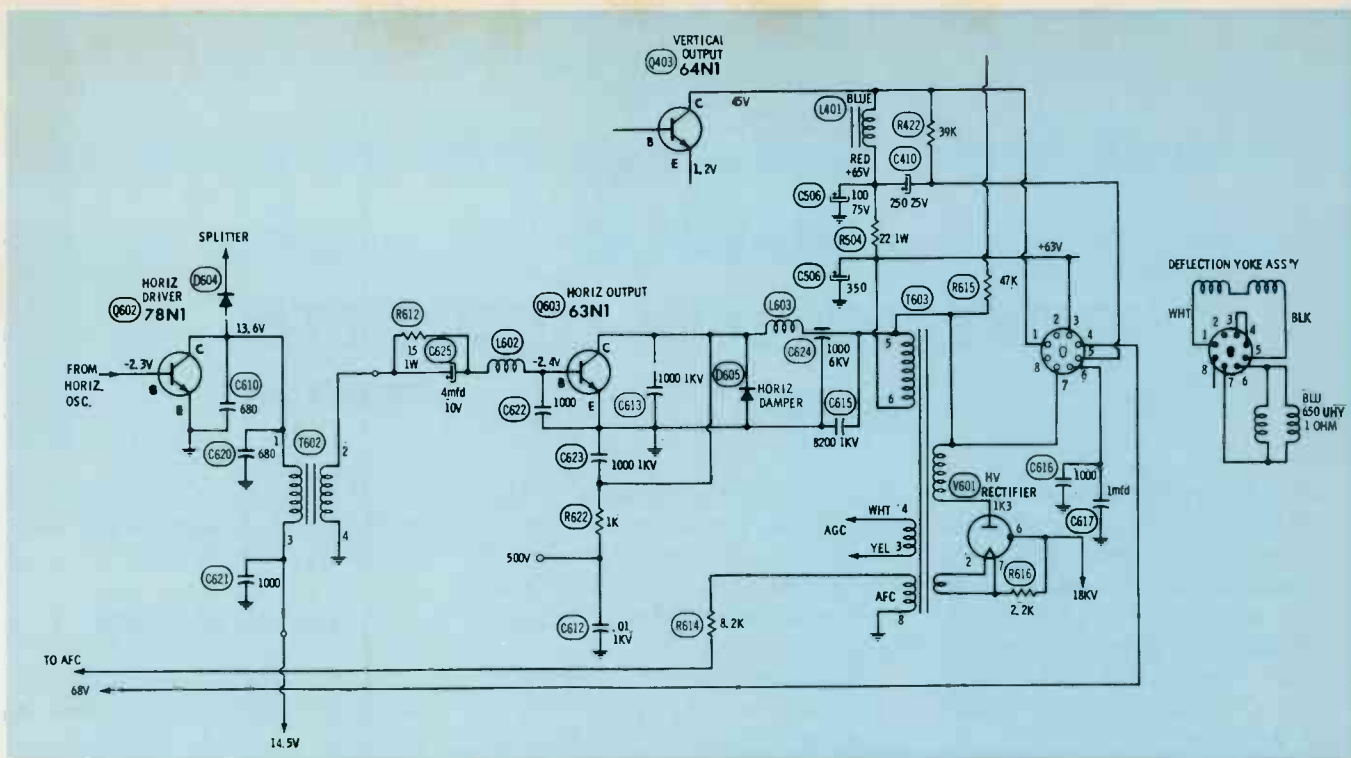
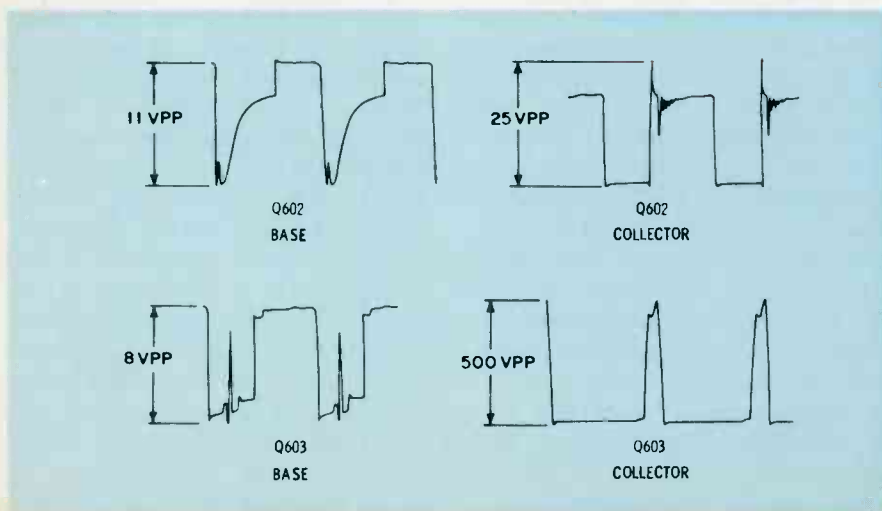
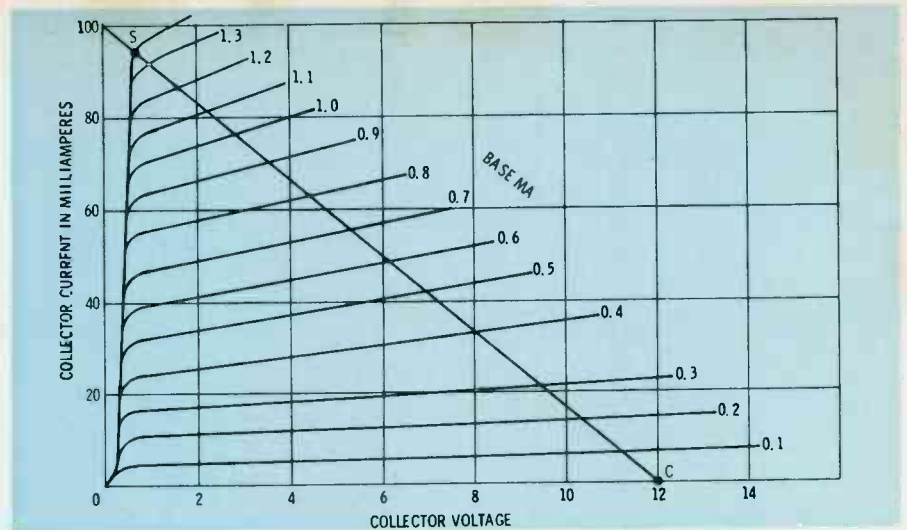

Fig. 11. A typical transistor horizontal-output and high-voltage configuration.
Fig. 12. Waveforms found in horizontal-output system of Fig. 11.
Fig. 13. Transistor operated in switching mode is driven from cutoff (c) to saturation (S).
A typical horizontal-output and high-voltage configuration is shown in Fig. 11. This is a hybrid circuit that employs a high-voltage rectifier tube. As noted in Part 1 of this article, driver transistor Q602 is first cut off and then driven into saturation by the output from the horizontal oscillator. Fig. 12 shows the normal waveforms at the base and the collector of Q602. The rectangular waveform from the collector is transformer-coupled to the base of horizontal-output transistor Q603. We say that Q602 is operated in the switching mode; or, the collector has two extreme operating points as indicated at S and C in Fig. 13. Transition between cutoff (C) and saturation (S) is very rapid in normal operation.
Note diode D604 in Fig. 11; this diode helps to damp out the ringing of transformer T602 and also rectifies the overshoot and boosts the +DC supply for the preceding phase-splitter stage. Observe that Q603 also operates in the switching mode. In other words, the waveform at the base of Q603 (Fig. 12) drives the transistor rapidly into cutoff and then drives it rapidly into saturation. When Q603 conducts, the yoke current increases linearly. Meanwhile,
You will find considerable variation in the circuitry of horizontal-output systems. For example, Fig. 16 shows an arrangement in which the horizontal transformer and deflection coils are connected in parallel between the main DC source and the collector of Q22. The driving waveform to the base is a rectangular pulse. A PNP transistor is used in this circuit. Hence, the drive waveform is a positive-going pulse. On the other hand, an NPN transistor is used in circuit of Fig. 11, and a negative-going drive waveform is utilized. The sequence of circuit action in Fig. 16 is basically the same as explained in Fig. 11.
However, voltage measurements at the base and collector of the horizontal-output transistor will indicate whether the transistor is operating normally. With reference to Fig. 11, Q603 does not draw excessive current when signal drive is lost, but becomes cut off. This is also true of driver transistor Q602. There are, however, several unique symptoms which can occur in this type of circuit. For example, high voltage can be developed, although there might
Another unique situation is that, in most cases, the horizontal-output circuit in Fig. 11 will continue to function with damper diode D605 open. Impaired operation continues because the horizontal-output transistor has the ability to function as a damper in case D605 is open. However, horizontal linearity will be poor at the left side of the picture. (Remember that defects in the damper circuit tend to affect the first half of the forward scan.) Note that the 500-volt boost voltage in Fig. 11 is not supplied from the damper diode action as in most tube-type receivers. Instead, a separate boost diode (SR601) rectifies the horizontal pulses from the col-
Suppose there is no raster. The first step is to check for high voltage with a DC voltmeter and high-voltage probe. If there is no high voltage, check next for AC pulses at the cap of V601 in Fig. 11. This can be done to best advantage with a high-voltage capacitance-divider probe and scope. However, if a suitable probe is not available, expedients such as a neon bulb, or stray pickup by a low-capacitance probe, can be used for a very rough check. In case the AC voltage is absent, either the driver stage or the output stage could be at fault. Check for drive at the base of each transistor with a low-capacitance probe and scope. This will often identify the defective stage. Then, DC voltage measurements will help
- Shorted shunt capacitor (C610, C622, and C613 in Fig. 11).
- Open series capacitor (C625 in Fig. 11).
- Shorted filter capacitor (C612 in Fig. 11).
For example, if C612 in Fig. 11 is shorted, the collector voltage at Q602 measures zero. An open coupling capacitor is quickly found by waveform checks. Defective
- Leaky capacitor (C610 and C620 in Fig. 11).
- Loss of coupling capacitance (C625 in Fig. 11).
- Open damper diode (D605 in Fig. 11).
ative feedback, and the waveform amplitude is reduced. Loss of coupling capacitance, as in C625 (Fig. 11) results in reduced waveform amplitude because of the AC drop across R612. In addition, the time constant of the drive circuit is changed and the base waveform at Q603 becomes distorted. L602 is a peaking coil that is employed to maintain fast rise of the drive waveform. The peaking coil does not function as intended unless the reactance at each terminal is normal.
- a. Defective damper capacitor (C623 in Fig. 11).